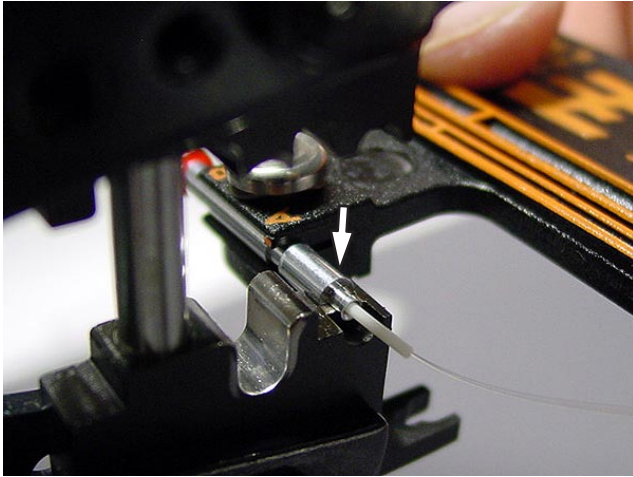

Figure 41
3. Place the body into the die set as shown in Figure 41 and crimp the buffer by closing the handles until the ratchet releases.